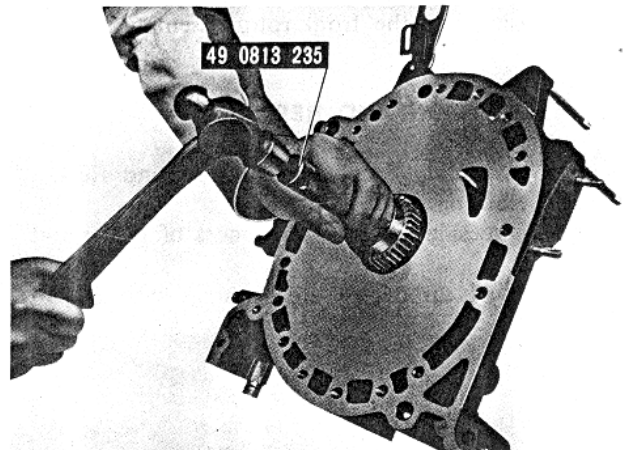

Fig. 1-31 Removing stationary gear assembly
- 1) Remove the stationary gear and main bearing assembly from the housing, using the main bearing replacer (49 0813 235), shown in Fig. 1-31.